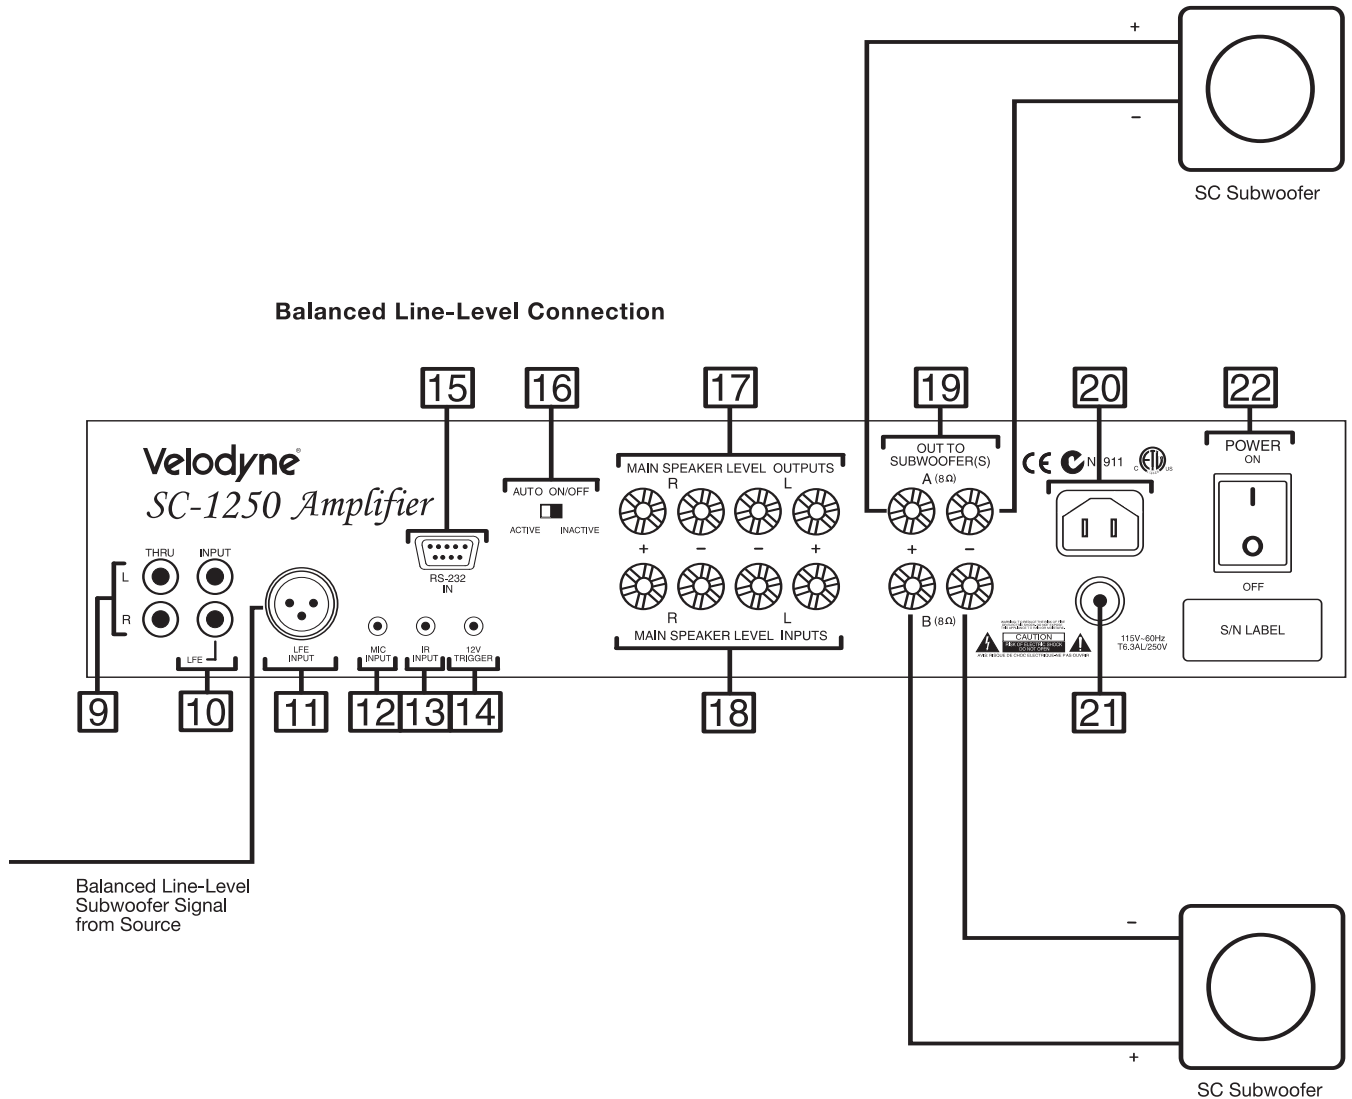

Figure 4: Balanced Line-Level Connection.
**(11) Balanced XLR LFE Input** (See Figure 4)